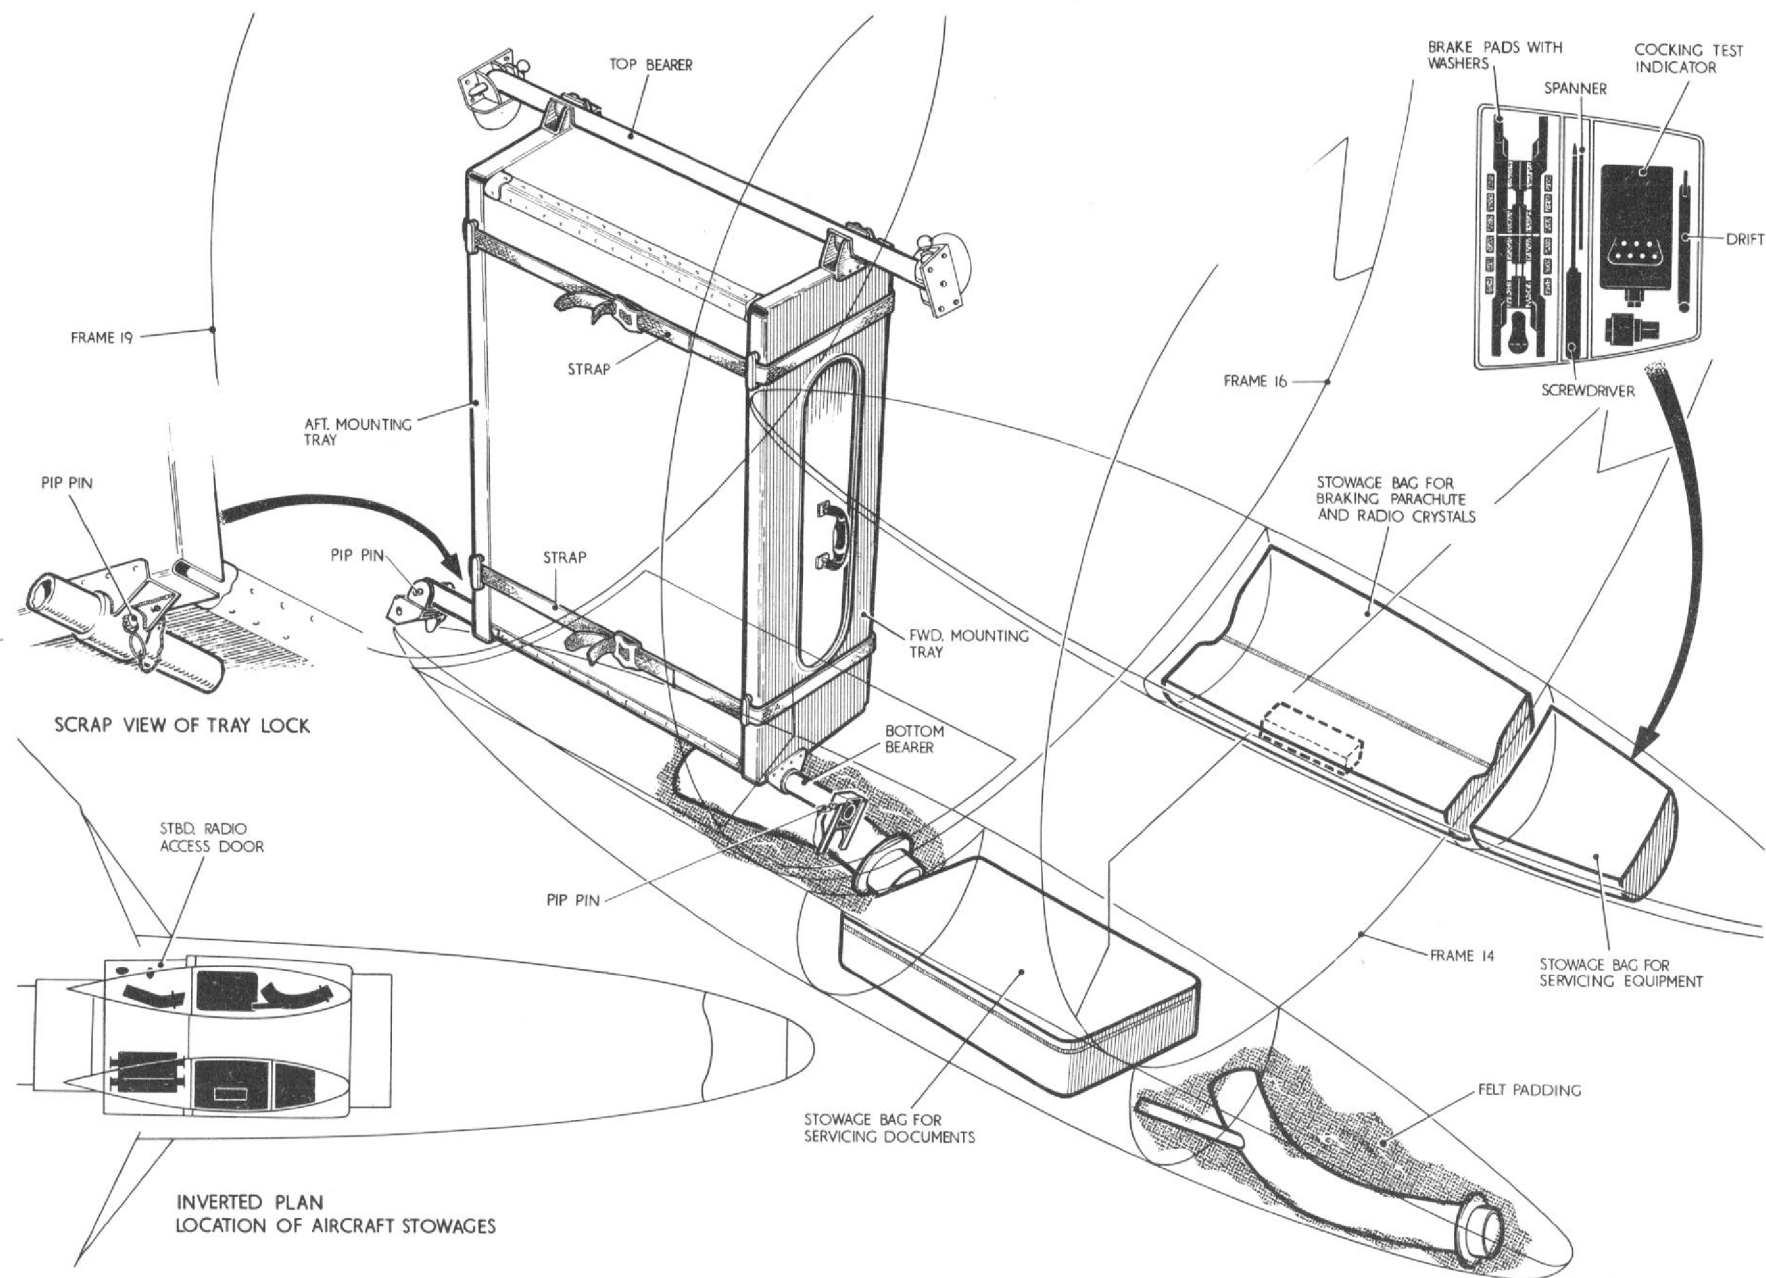

Fig.1 Stowing luggage, spare braking parachute and servicing documents etc.
Stowing luggage, spare braking parachute, servicing equipment and documents (fig. 1 and 2)
- (5) Fit the top bearer, Part No. A.258429 between the mounting brackets on frames 16 and 19 and secure with the pip-pins, Part No. A.413 attached to the mounting brackets (fig. 1).
- (6) Fit the forward and aft mounting trays, Part No. C.258425 and C.258426 to the suitcase and secure firmly with the two strap assemblies, Part No. B.258427, ensuring that the straps pass through the guides on the mounting trays.
- (7) Fit the bottom bearer, Part No. B. 258428, through the mounting rings at the bottom of the mounting trays and secure the aft mounting tray to the bottom bearer with pip-pin, Part No. A.518.
- (8) Offer up the mounting tray, suitcase and bearer assembly into the radio bay and locate the top locating channels about the top bearer and fit the aft end of the bottom bearer into the attachment bracket for the outboard case chute at frame 19 and secure with the pip-pin. At the same time feed the forward end of the bottom bearer into the mounting bracket on the aft face of the gun package, and secure with the pip-pin.